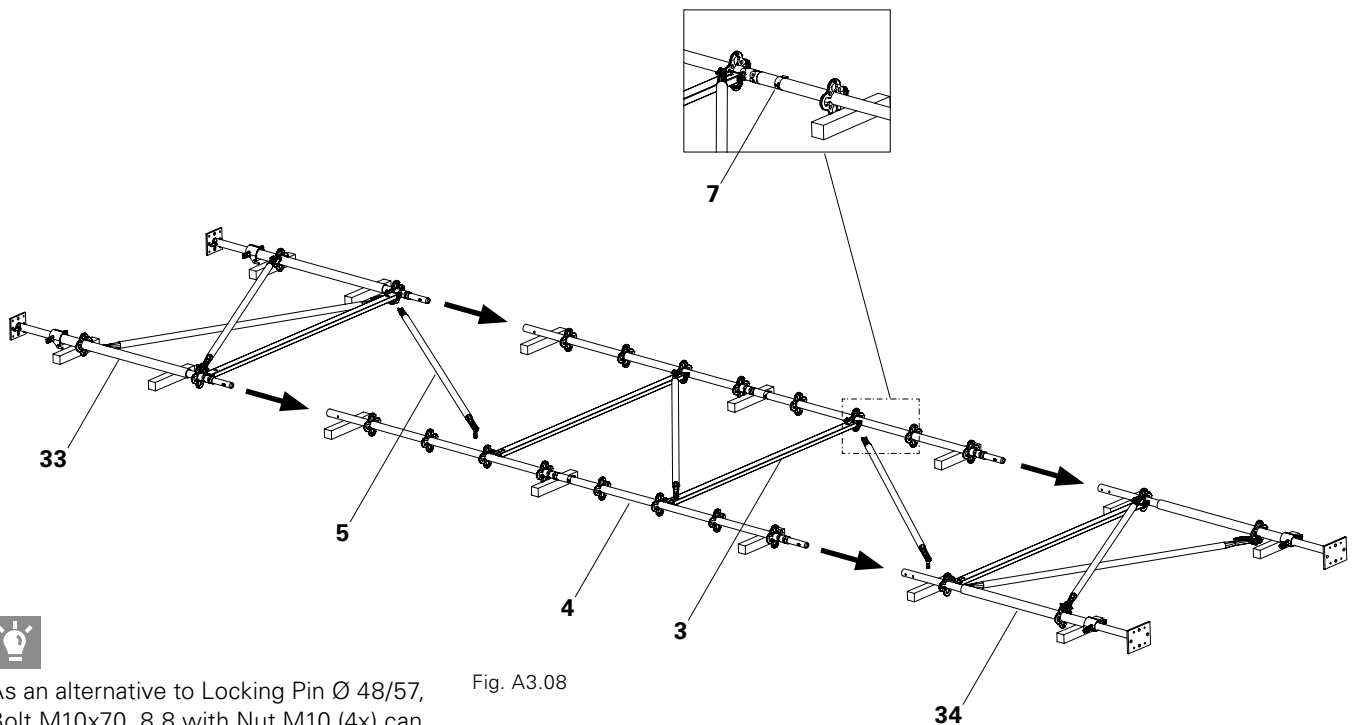

Fig. A3.08
1. Insert Standards (4) into the prepared head section (34) and secure with Locking Pins (7).
2. Connect Standards with Ledgers (3) and Ledger Braces (5) to form a wider shear frame arrangement.
4. Position the prepared base section (33) and secure with Locking Pins (7). (Fig. A3.08)